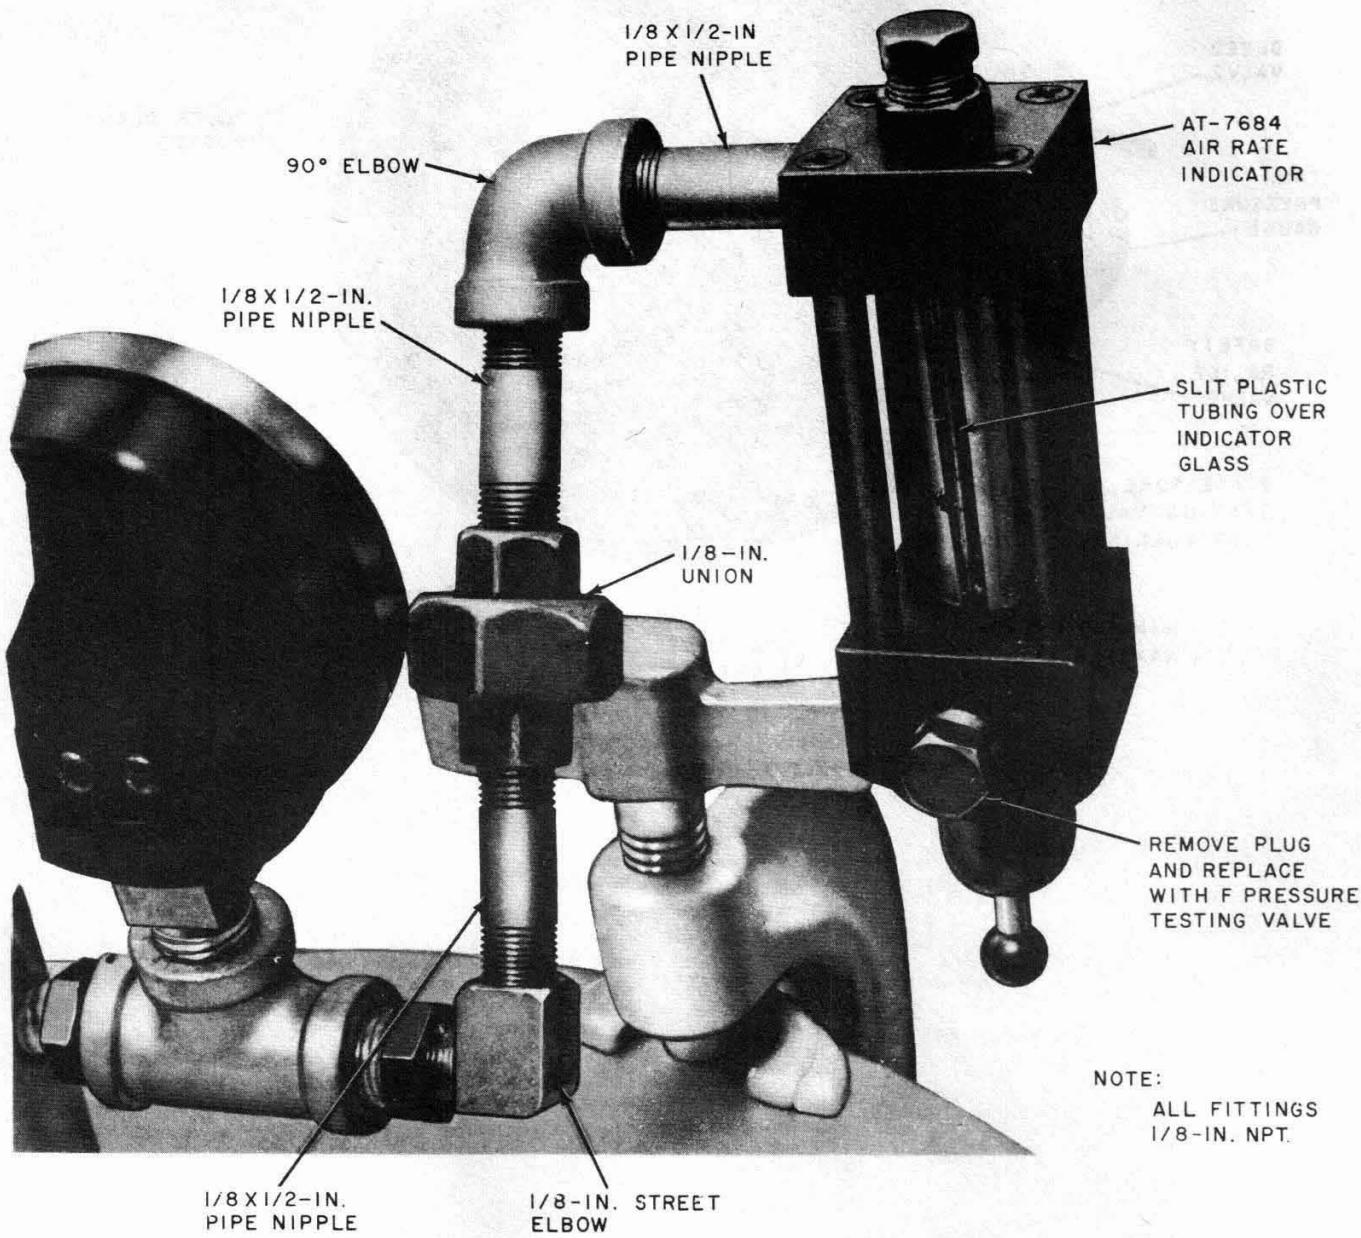

Fig. 13—Optional Air Rate Indicator Installation
4.14 An optional air rate indicator (AT-7684) may be installed in the pressure inlet of the tank to give a visual indication of nitrogen flow into the tank and thus compound flow into the cable. Conversely, no nitrogen flow would indicate no compound flow into the cable. Figure 13 illustrates the method of installing the air rate indicator and F pressure testing valve.